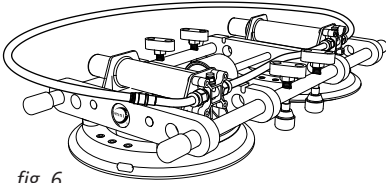

fig. 6
1. Connect the tubing in a closed loop. (see fig. 6)